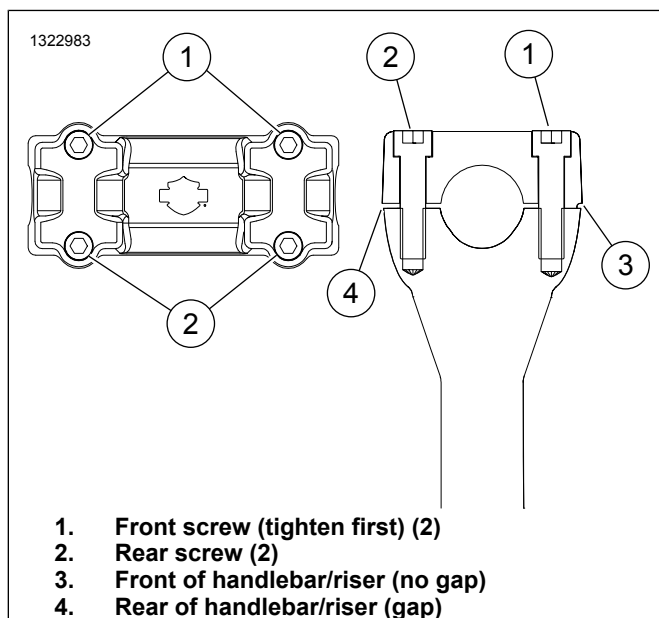

Figure 2. Handlebar Mounting
- b. See Figure 2. Install screws 1 and 2.
- c. Check the gap between the clamp and risers. The gap should only be at the rear of the handlebar (4). There should be no gap at the front of the handlebar (3).
- c. See Figure 2. Tighten front screws (1).